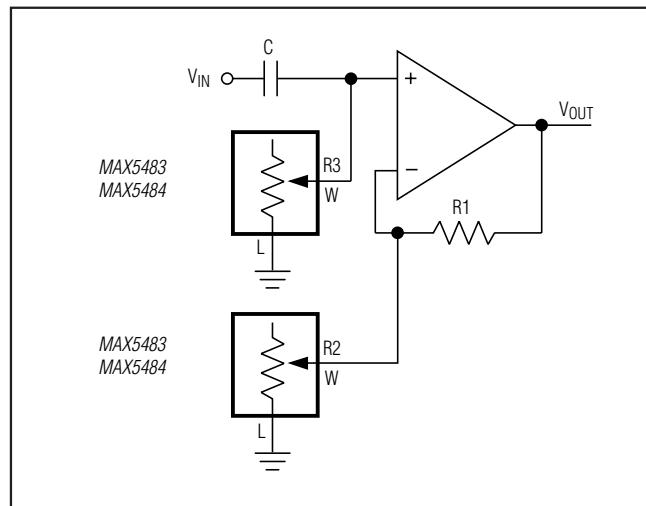

Figure 12. Programmable Filter
Figure 12 shows the configuration for a 1st-order programmable filter using two variable resistors. Adjust R2 for the gain and adjust R3 for the cutoff frequency. Use the following equations to estimate the gain (G) and the 3dB cutoff frequency ( $f_C$ ):